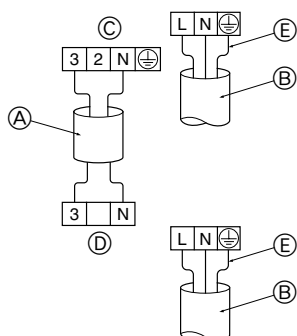

Fig. 7-3
- Perform wiring as shown in the diagram to the lower left. (Procure the cable locally) (Fig. 7-3)